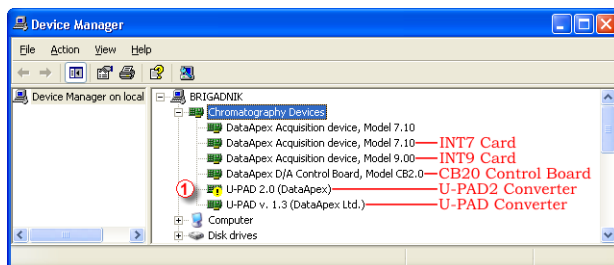

Fig. 17: Device Manager in Windows XP
**The driver is installed, but there is a yellow exclamation mark (⚠) in the Fig. 17 on pg. 22.) or a question mark over its icon, or it is not behaving as expected. The driver is probably installed incorrectly.**